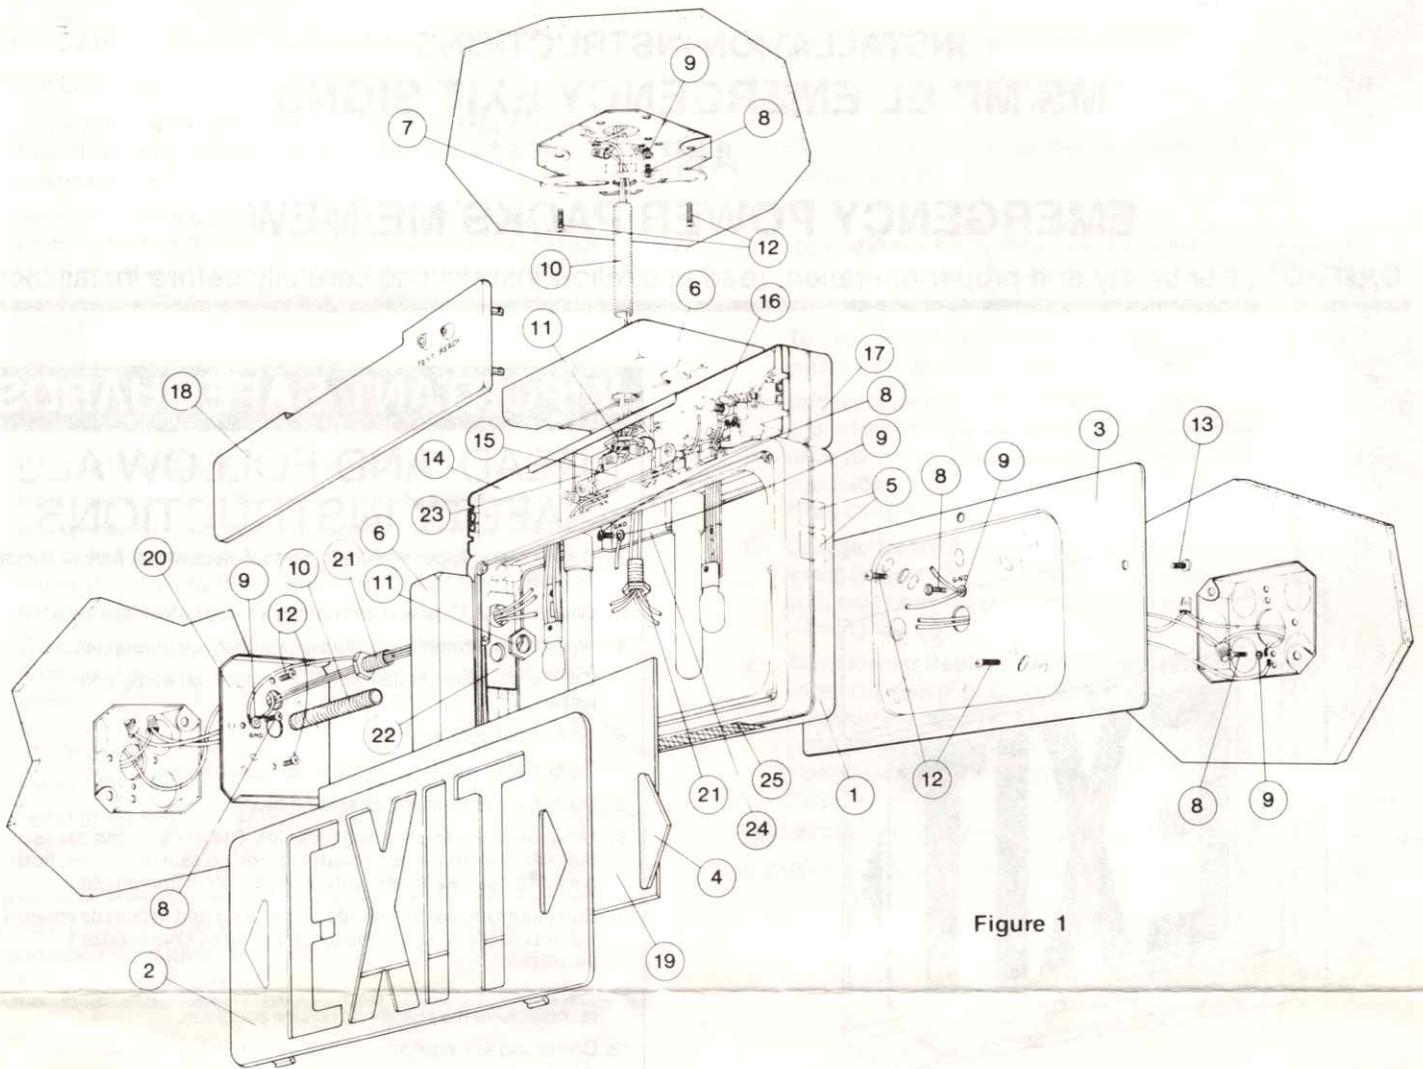
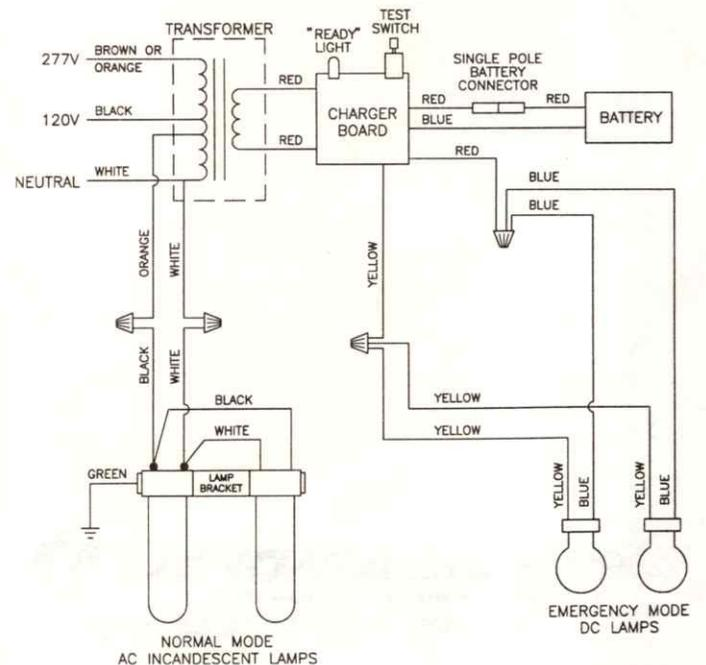

Figure 1
Figure 2
See Figure 1
1. Remove faceplate ② by inserting your fingers into upper portion of letters "E" and "T" (stencil face), or into top inside corners (panel face), and pulling faceplate away from housing ①. Pry out a corner of fiberglass panel ⑱ and slide panel to the side.
2. Remove proper hole plugs ⑤ from side of fixture, according to desired canopy position.
3. Remove emergency pod cover ⑱ by prying the slot on each end.
4. Remove oblong knockouts from junction box mounting plate ⑳ that correspond to junction box being used. Screw threaded nipple ⑩ approximately 1" into junction box mounting plate ⑳. Secure junction box mounting plate ⑳ to junction box using J-Box screws ⑫.
5. Secure two ground leads to back mounting plate ③ using green ground screw ⑧ and cup washer ⑨. Secure other end of shorter ground lead to lamp bracket ㉑ using green ground screw ⑧ and cup washer ⑨.
6. Route longer ground lead and proper leads from primary side of transformer ⑮, through threaded hole of side mount plate ㉒. Next route leads through top hole in side of housing ①, through top hole in canopy ⑥, and through hex nipple ㉓. Thread hex nipple through canopy, through housing, and into hole of side mount plate, and tighten securely, being sure to keep bottom hole of side mount plate aligned with center hole of housing.
8. Secure supply side ground lead and fixture ground lead to junction box mounting plate ⑳ using green ground screw ⑧ and cup washer ⑨. Dress wires into junction box.
9. Use hex nut ⑪ to secure housing/canopy assembly onto threaded nipple ⑩.
10. Remove protective backing from foam tape on back of battery ⑭. Insert battery ⑭ into emergency pod ⑰, and press firmly into place.
11. Plug connector from battery ⑭ into connector from charger board ⑯ (see Fig. 2). Dress wires inside emergency pod ⑰.
12. Replace emergency pod cover ⑱, fiberglass panel ⑱ and faceplate ②.
2. From back mounting plate ③, remove 1/2" center knockout and oblong knockouts that correspond to junction box being used.
4. Route proper leads from primary side of transformer ⑮ through center hole in bottom of emergency pod ⑰ and through 1/2" knockout in back mounting plate ③ (see Fig. 1 and Fig. 2).
6. Secure input ground lead to junction box using green ground screw ⑧ and cup washer ⑨. Secure short ground lead to back mounting plate ③ and lamp bracket ㉑ using green ground screw ⑧ and cup washer ⑨ (see Fig. 1).
7. Dress wires into junction box and secure fixture to junction box using screws ⑪.
8. Remove protective backing from foam tape on back of battery ⑭. Insert battery ⑭ into emergency pod ⑰, and press firmly into place.
9. Plug connector from battery ⑭ into connector from charger board ⑯ (see Fig. 2). Dress wires inside emergency pod ⑰.
10. Replace emergency pod cover ⑱, fiberglass panel ⑱ and faceplate ②.
2. Remove emergency pod cover ⑱ by prying the slot on each end.
3. Remove hole plug from top of emergency pod ⑰.
4. Secure mounting bar ⑦ to junction box, using J-Box screws ⑫. Screw threaded nipple ⑩ approximately 1" into mounting bar ⑦.
5. Secure input ground lead to junction box, using green ground screw ⑧ and cup washer ⑨ (see Fig. 1).
6. Secure short ground lead to back mounting plate ③ and lamp bracket ㉑ using green ground screws ⑧ and cup washers ⑨.
7. Route proper leads from primary side of transformer ⑮ through hex nut ⑪ and hole in the top of the emergency pod ⑰. Next route leads through the center hole in canopy ⑥, and through threaded nipple ⑩.
9. Use hex nut ⑪ to secure emergency pod/canopy assembly onto threaded nipple ⑩.
10. Remove protective backing from foam tape on back of battery ⑭. Insert battery into emergency pod ⑰ and press firmly into place.
12. Replace emergency pod cover ⑱, fiberglass panel ⑱, and faceplate ②.
2. Remove faceplate ② by inserting your fingers into upper portion of letters "E".and "T" (stencil face), or into top inside corners (panel face), and pulling faceplate away from housing ①. Pry out a corner of fiberglass panel ⑨ and slide panel to the side.
3. Remove three center hole plugs from top of exit housing ①.